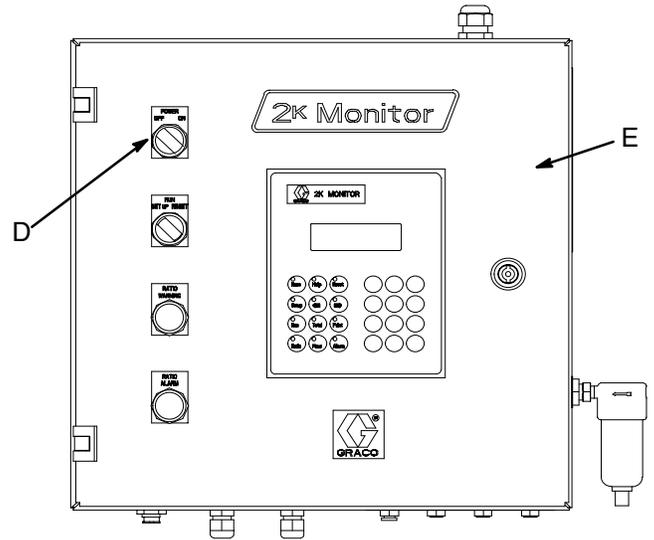
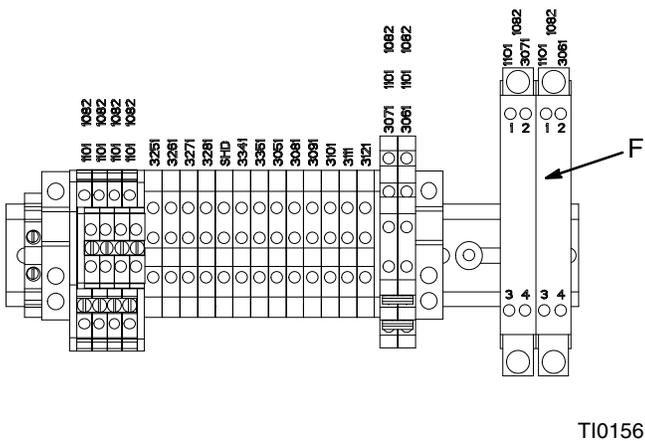

Fig. 12
Fig. 14
2. To avoid damage to the system, remove power before disconnecting the cables. Turn the 2K Monitor power switch (D) to OFF. See Fig. 12.
1. Turn the 2K Monitor power switch (D) to off. See Fig. 12.
2. Open the controller door (E).
3. Remove the barrier cover (F) for the fuse being replaced. See Fig. 14.
5. Install a new fuse (part no. 115429) and re-install the barrier cover (F).
1. Turn the 2K Monitor power switch (D) to off. See Fig. 12 and Fig. 16.
5. Pull down the clips (C), holding the power supply in place. Remove the power supply from the din rail.